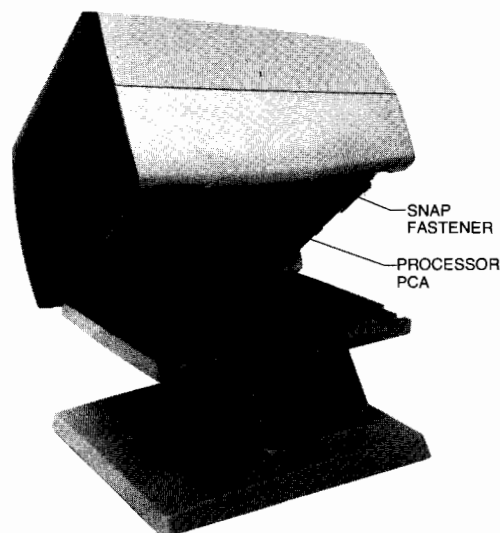

Figure 7-6. Processor PCA Removal
2. Pull outwardly on each of the four snap fasteners securing Processor PCA to mainframe bottom. Lower Processor PCA until it rests on the support (figure 7-6).